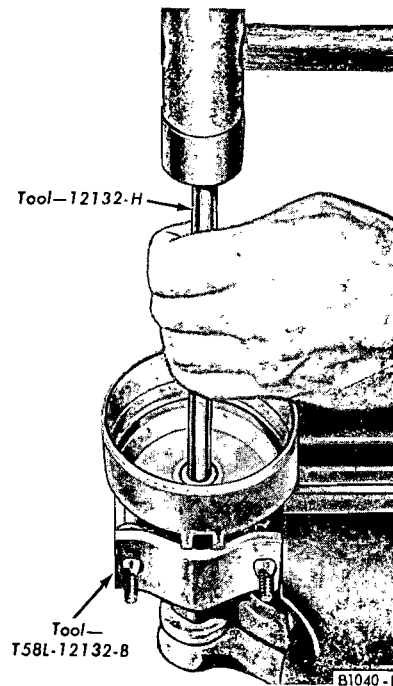

FIG. 12—Lower Bushing Removal—Typical
17. Refer to Figs. 12 and 13 and remove the distributor shaft upper and lower bushings.